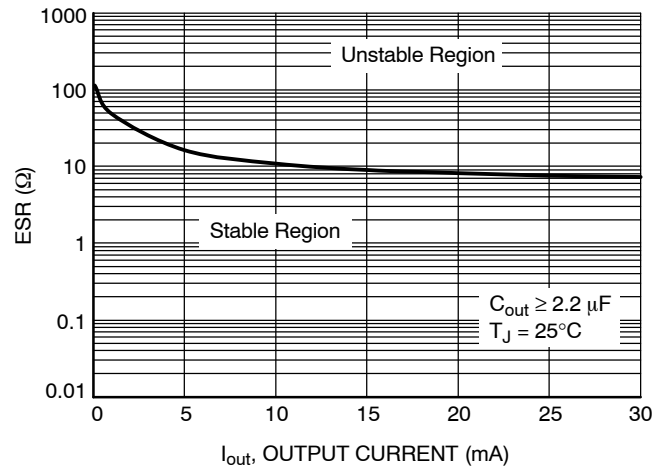
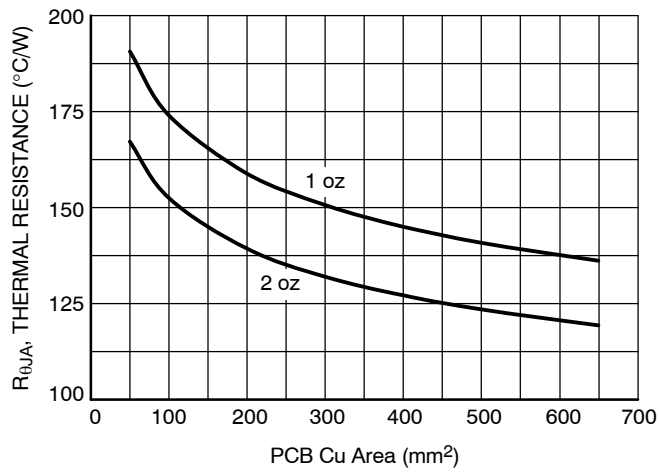

Figure 3. Output Stability with Output Capacitor ESR
Figure 18. RθJA vs. PCB Cu Area
The NCV4296-2C low dropout regulator is self-protected with internal thermal shutdown and internal current limit. Typical characteristics are shown in Figure 3 to Figure 18.
The NCV4296-2C is a stable component and does not require a minimum Equivalent Series Resistance (ESR) for the output capacitor. Stability region of ESR vs. Output Current is shown in Figures 3 and 11. The minimum output decoupling value is 2.2 μF and can be augmented to fulfill stringent load transient requirements. The regulator works with ceramic chip capacitors as well as tantalum devices. Larger values improve noise rejection and load transient response.
Since TJ is not recommended to exceed 150°C, then the NCV4296-2C soldered on 645 mm2, 1 oz copper area, FR4 can dissipate up to 0.92 W when the ambient temperature (TA) is 25°C. See Figure 18 for RthJA versus PCB area. The power dissipated by the NCV4296-2C can be calculated from the following equations: